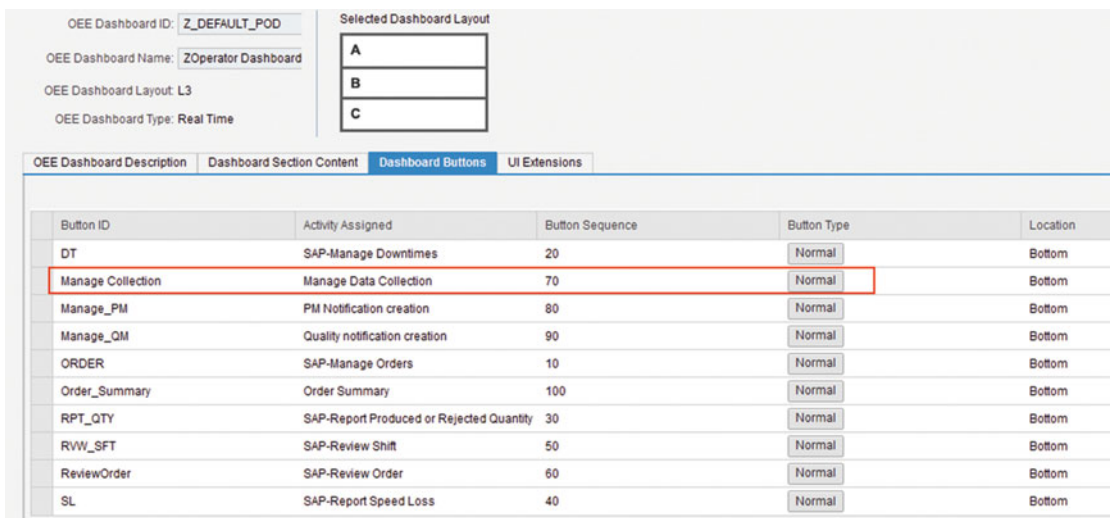

Figure 7-27. Add dashboard button with custom activity
18. Click OK and save the changes. Refer to Figure 7-27.